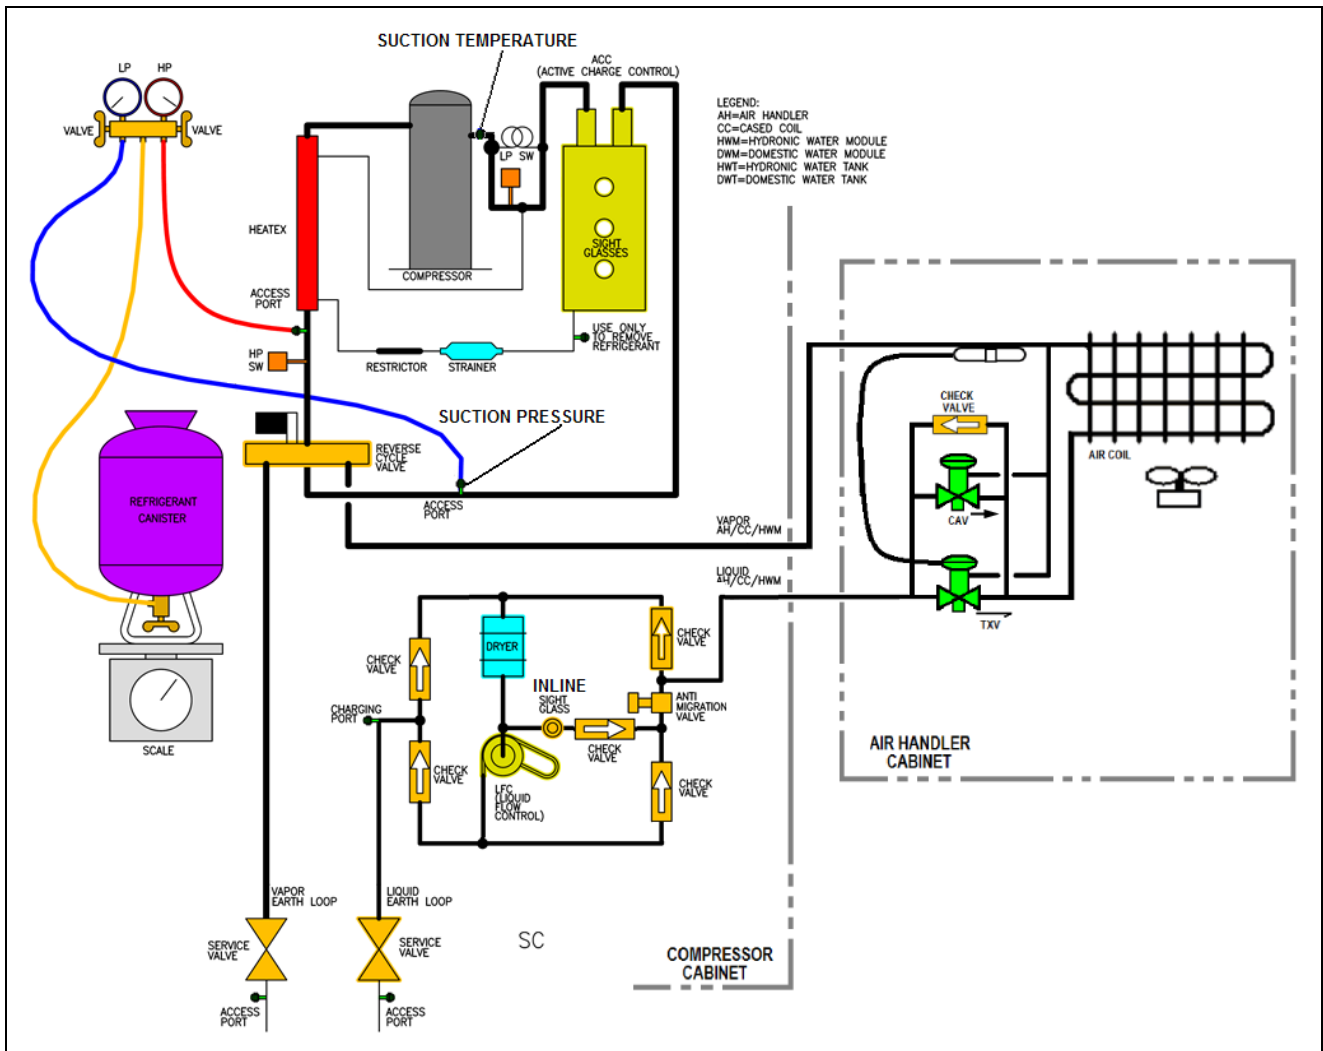

Figure 33. Superheat Measurements for SC, SD, SCW and SW Compressor Units (SC Model shown).
1. After suction pressure has stabilized, determine the system superheat. This is done by utilizing the access port and LP gage in Figure 33 to measure suction pressure. **Next, apply a thermocouple at the compressor suction port** as shown in Figure 33 by attaching a thermocouple lead with electrical tape, and wrapping with ½" thick insulation.